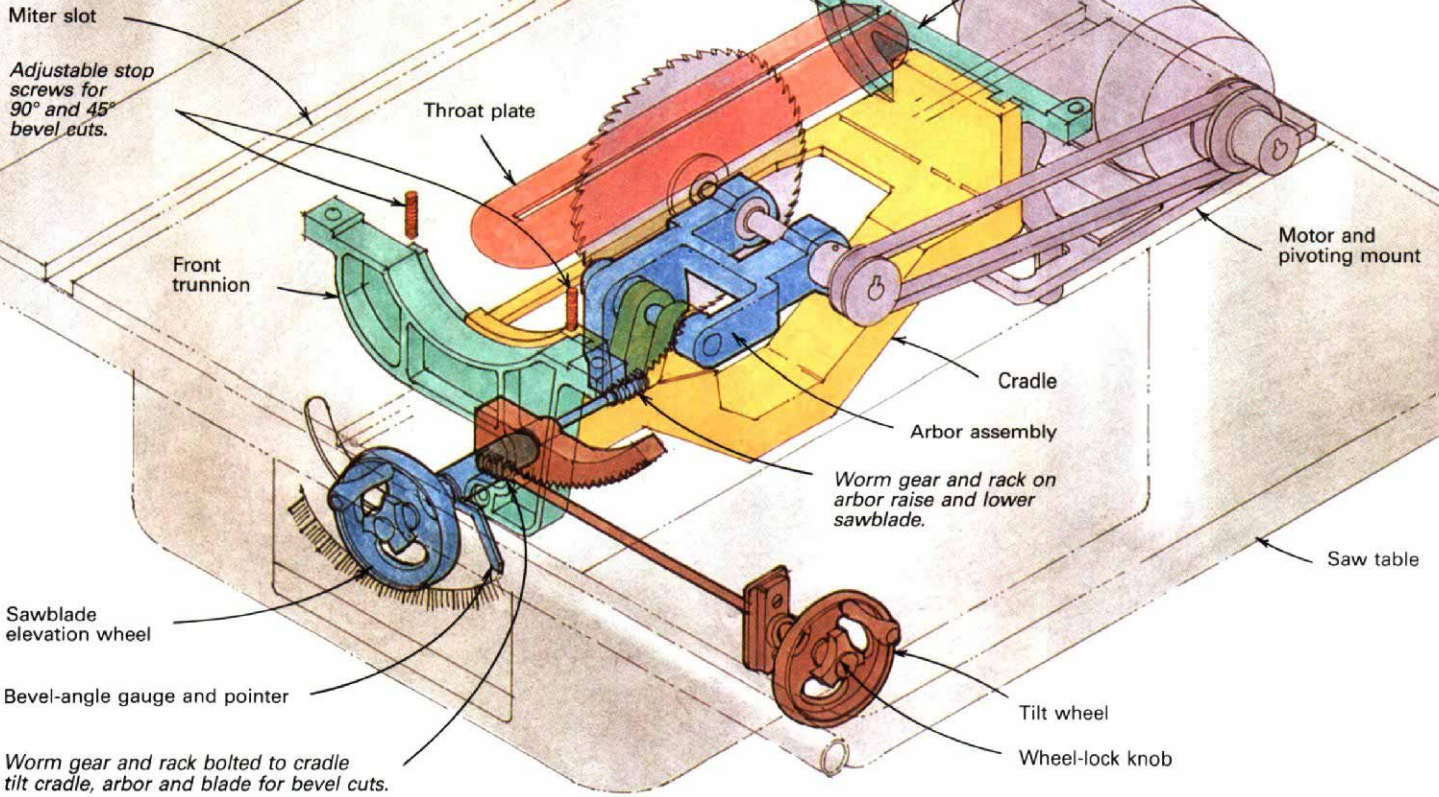

Fig. 1: Tablesaw anatomy
Tablesaw anatomy—Figure 1 above illustrates the internal components of a typical tablesaw; this example is similar to saws made by Delta, Powermatic, Sears and Taiwanese manufacturers. Bolted to the underside of the saw table is the saw cradle (or carriage) and trunnion assembly. The cradle supports the saw arbor, which is basically a shaft held by either sleeve or ball bearings. The arbor has a sheave on one end for the V-belt, and the sawblade is secured by a flange and nut on the other end. There are two trunnions, one at each end of the assembly, that support and align the cradle, as well as the motor on most saws. Because the trunnions are semicircular, they make it possible for the cradle to be tilted
The most common tilt mechanism on many Taiwanese saws and Delta and Powermatic models relies on the worm gear and rack mechanism illustrated in figure 1 on the previous page. With this design, the solidity of the cradle depends on having a close fit between the worm gear on the tilt mechanism and the rack on the front trunnion. Tightening the lock knob at the center of the tilt wheel only locks the position of the tilt mechanism—it doesn't tighten anything inside the saw. While the basic design of the tilt mechanism is shared by many saws, manufacturers provide several ways to snug up the fit between the worm and rack gear, and get rid of any play, known as backlash. On the Delta 10-in. Tilting Arbor Bench Saw, a lockout secures the position of the block that houses the worm gear shaft. By loosening the locknut and pressing down on the block, as shown in the photo above, backlash is reduced. On Powermatic's Artisan saw and on some Sears models, reducing backlash is a matter of pivoting the tilt-adjustment wheel's shaft. Loosen the two screws that hold the tilt wheel's mounting plate to the outside of the saw housing, and shift the wheel opposite the direction the worm gear moves. Once you make the adjustment, tilt the blade a couple of times to make sure the tilt mechanism operates smoothly. If it doesn't, the gears may fit too snugly, which can cause premature wear. In this case, loosen the backlash adjustment a bit.
The next step is to square the blade. Release the saw's tilt lock and remove the rear trunnion clamp, if you're using one, and raise the blade as high as it will go. Optionally, you can remove the throat plate so that the body of a try square will sit flat on the saw table. To check blade squareness, use a high-quality try square that's dead on 90°. My favorite is an all-steel Starrett square, available from the L.S. Starrett Co., 121 Crescent St., Athol, Mass. 01331; (508) 249-3551. Place the blade of the square against the sawblade, making sure you're not on a tooth, and look for a gap between the square and blade. Fiddle with the saw's tilt adjustment until, the gap of light disappears. If the blade won't tilt far enough, you may have to loosen the stop screw (see figure 1 on pg. 69). Next, secure the cradle with the trunnion lock or clamp, as previously described, and recheck the blade for squareness.